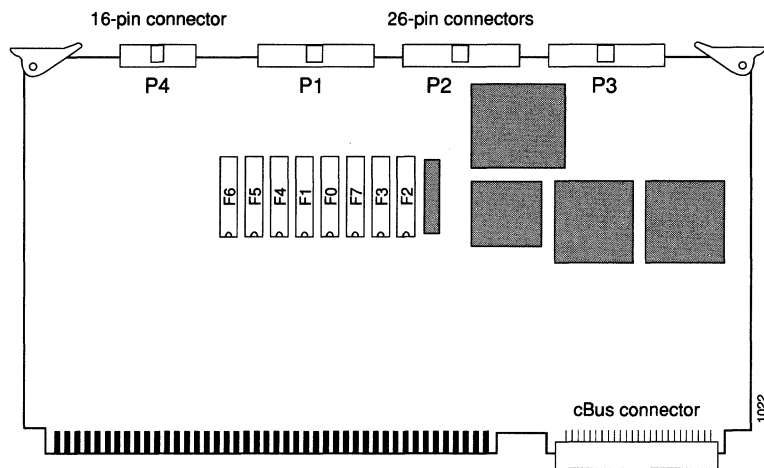

Figure 5-20 CSC-FCI Card — Component Side View
Figure 5-20 is a line drawing of the CSC-FCI FDDI controller card viewed from the component side.
- Step 4:** Insert the CSC-FCI in the card cage. See Figure 5-20 for an illustration of slot placement.
There are four cables coming from the applique card. The cables are labeled P1, P2, P3, and P4. Refer to Figure 5-20 for an illustration of the connectors on the CSC-FCI controller card. In general, route cables under the card cage through the space provided, and then up to the card where they attach. Be careful not to restrict the airflow or destroy the integrity of the electrical grounding or power supply.